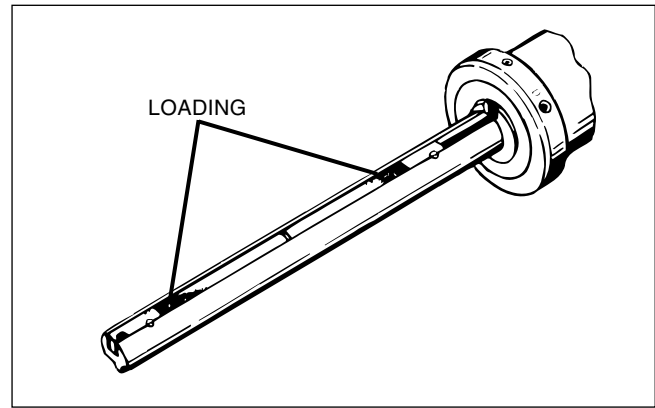

FIGURE 2-8, Stone Loading
15. Frequently stop and examine shoes and stone. For most applications at least a full line of contact should be seen on stone and both shoes. If wear does not show sufficient contact use truing sleeve some more (see Figure 2-8).